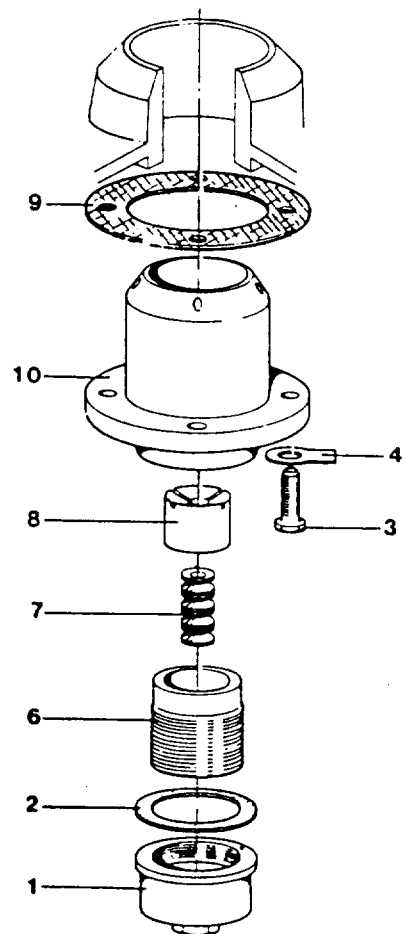

Fig. 8/2c
**Fig. 8/2a:** Undo screws 17 and 36 and remove operating-water feeding device 18 and spindle cap 5t. Straighten safety washers 11n and unscrew hex head screws 11p from the neck bearing. Take off protection cap 11m and spindle spring 5s.